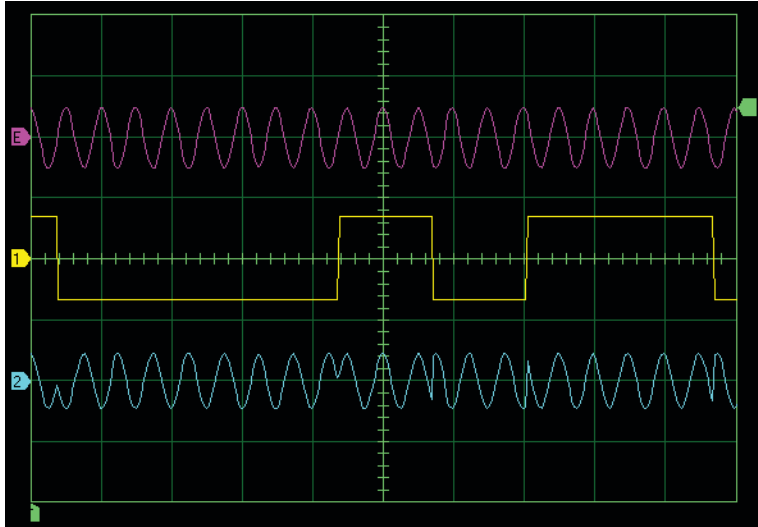
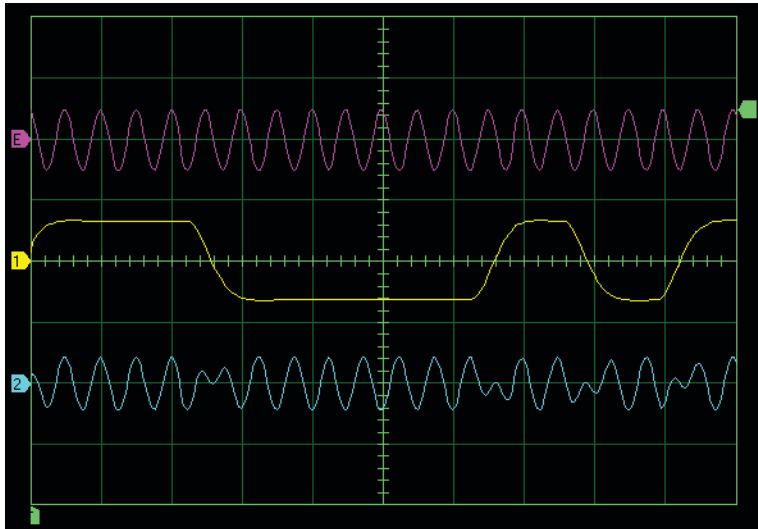

Figure 16. I-channel carrier, bipolar data and BPSK signal (Low-Pass Filters Off).
Figure 17. I-channel carrier, bipolar data and BPSK signal (Low-Pass Filters On).
19. Connect Oscilloscope probe E to TP13 (the I-channel carrier signal). Turn the Low-Pass Filters Off and observe the signals using settings that allow you to see detail. Then turn the Low-Pass Filters On (see Figure 16 and Figure 17).